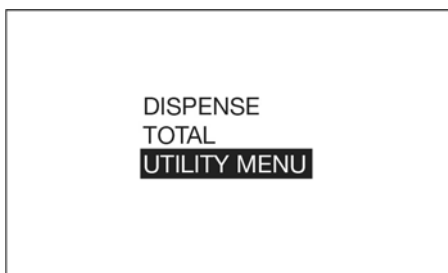

FIG. 17
4. Select the **UTILITY MENU** option (FIG. 17).